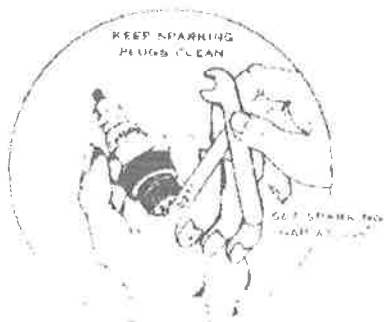

Figure 2. Checking the gap between the electrodes.
7. **Sparking Plugs.** Remove the cover from the sparking plugs and the sparking plugs from the cylinder heads. Clean and reset the plug point gap at 0.025". See Figure 2.